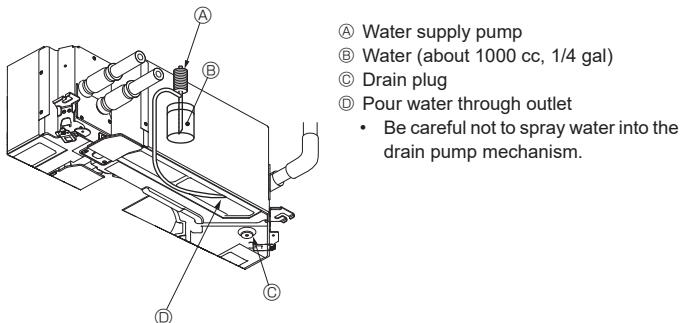

Fig. 7-11
7.4. Check of drainage (Fig. 7-11)